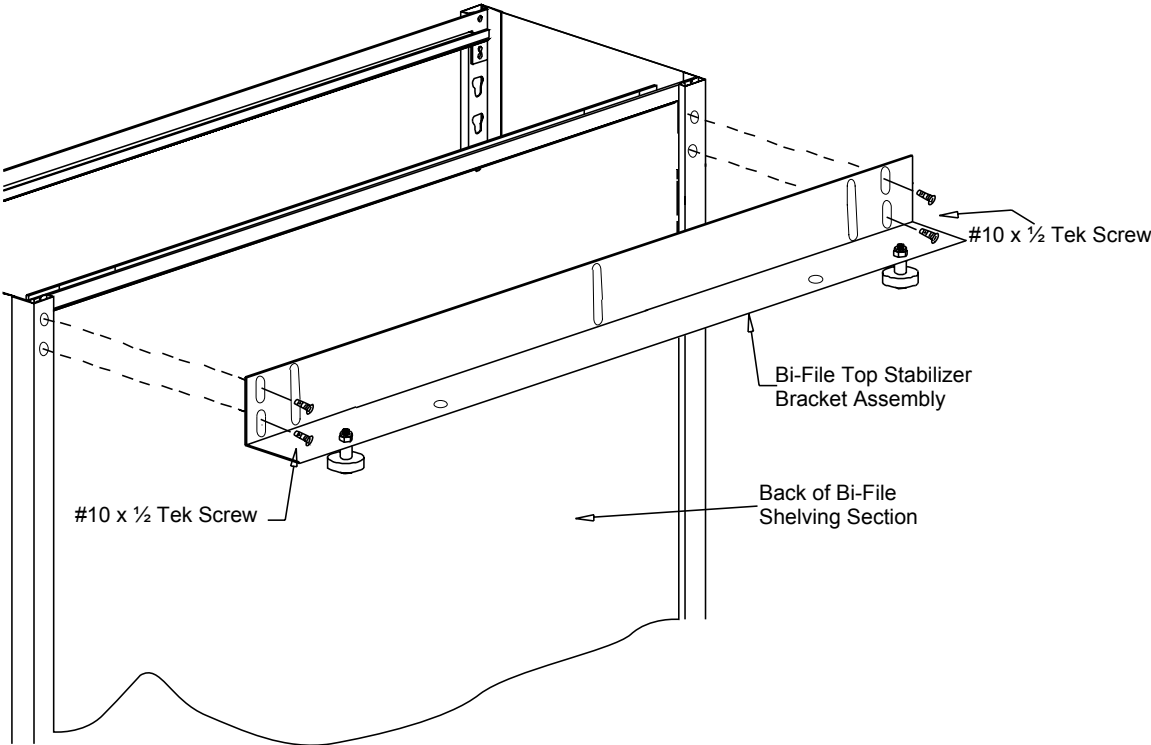

FIGURE 16
STEP 1 Fasten the Bi-File Top Stabilizer Bracket assembly to the top back of each Bi-File Shelving sections by using four (4) #10 x 1/2 Tek screws. **See Figure 16.** Make sure the Stabilizer Wheels on the Bi-File Top Stabilizer Bracket are in the Stationary Top Channel.